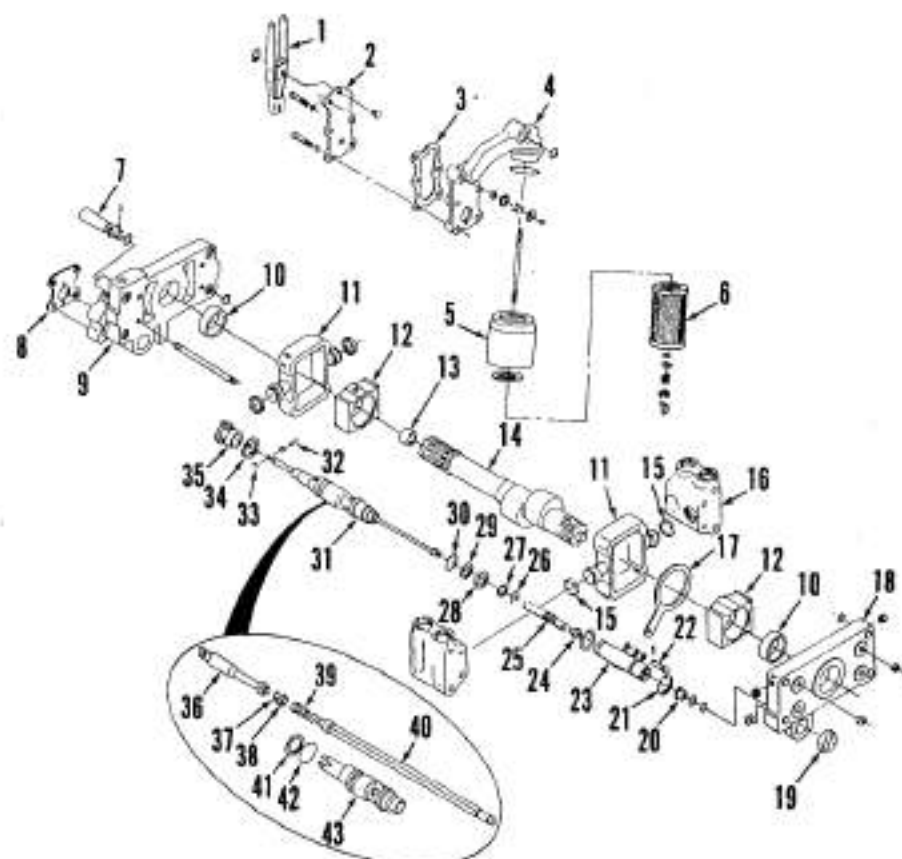

Fig. 231—Exploded view of hydraulic lift pump assembly. Safety relief valve (7) is used on models not equipped with pressure control valve.
**224. OVERHAUL.** To disassemble the removed hydraulic pump, disconnect the control lever pivot pin and remove control lever (1—Fig. 231) from valve rollers (33). Remove rollers and pin (32). Remove filter (6) and housing (5) from intake housing (4). Disconnect oscillator (23) from cam follower (17). Remove cap nut (19). Remove stud nuts, then
Inspect all parts and renew if excessively worn or damaged. The control valve spool and sleeve (31—Fig. 231) are serviced as a matched assembly. When renewing bushings (10) be sure end of bushing does not extend above machined surface of pump body and split in bushing is located at the top of body. Always renew all gaskets and "O" rings when reassembling.